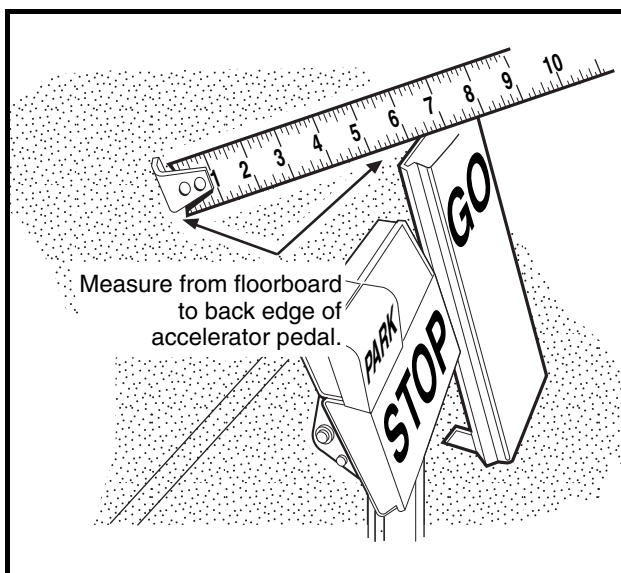

Figure 5-14 Accelerator Pedal Height Measurement
- 4.3. With the park brake unlocked, measure and note the distance from the top of the accelerator pedal to the floorboard, and then lock the park brake (Figure 5-14, Page 5-13).